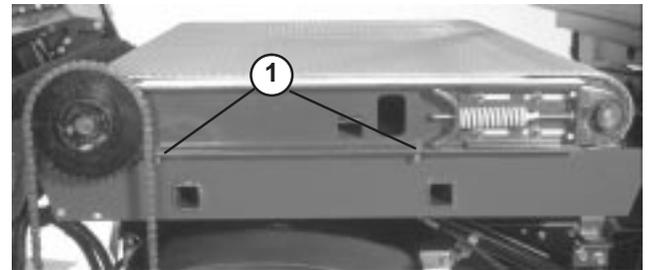

Figure 29
- Loosen (2) capscrews, washers and nut, on right side of machine, securing slider bed to frame (Fig. 29). Make sure fasteners are loose enough to allow slider bed to be tipped.